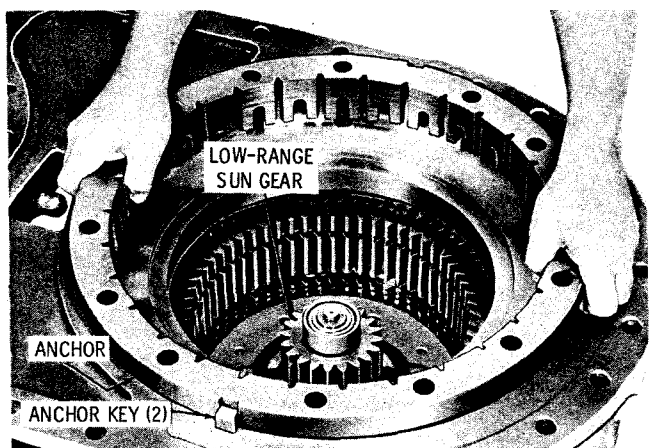
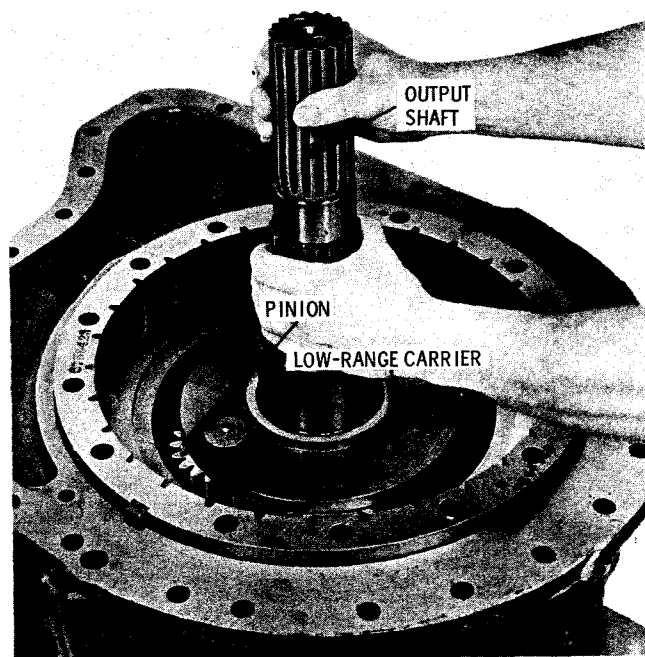

Fig. 7-23. Installing reverse-range clutch anchor
Fig. 7-26. Installing low-range carrier assembly
(7) Install two anchor keys (approximately 1.7 inches long) into the keyways. Install, flat side upward, the reverse-range clutch anchor, alining the keyways with the anchor keys (fig. 7-23).
(10) Install the low-range carrier assembly and transmission output shaft (fig. 7-26). Engage the carrier pinions with the splitter output shaft (low-range sun gear) (fig. 7-23), above.